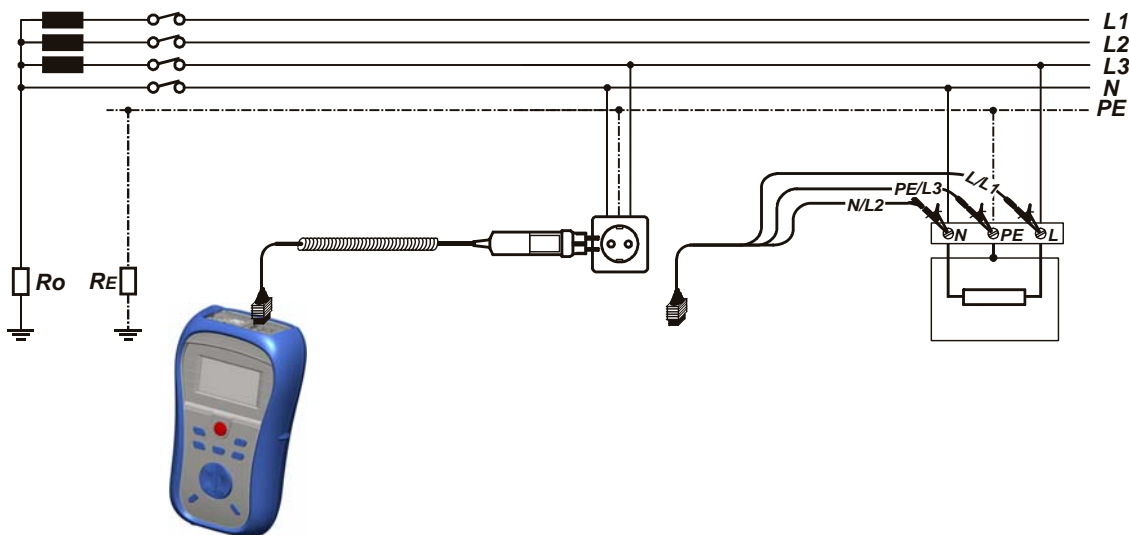

Figure 5.24: Connection of plug cable and 3-wire test lead
- ❑ **Connect** test leads to the item to be tested (see figure 5.24 and 5.17).